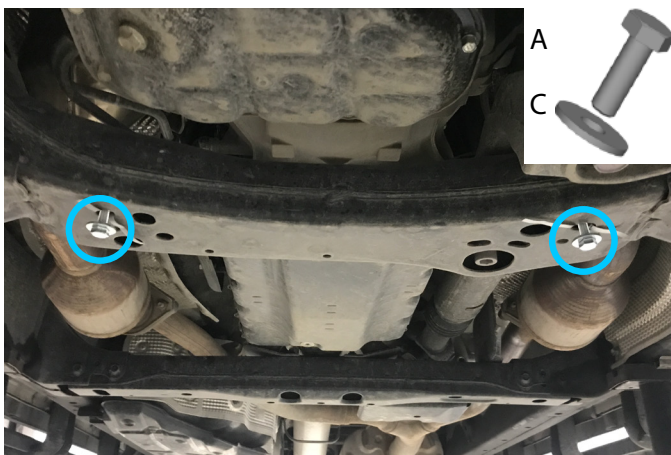

Fig. 2
2. Loosely install M8x30 bolts (item A) with M8 washers (item C) as shown in fig.2. At this point only thread in bolt 2-3 turns.